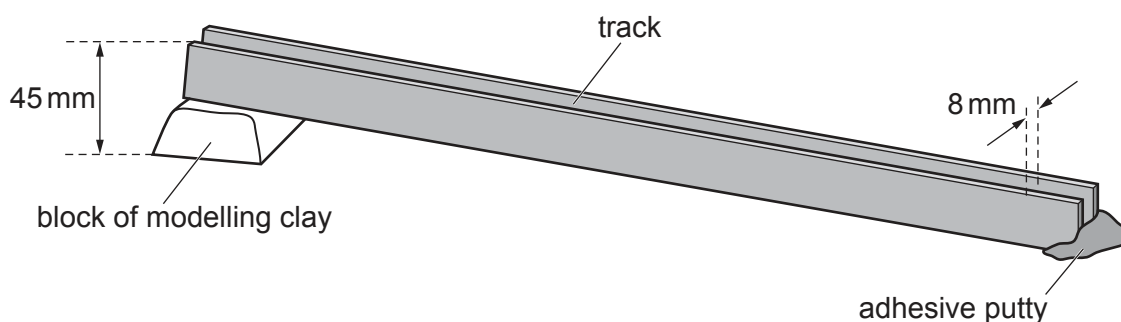

Fig. 4.1
2. The track is formed from two metre rules in parallel 8 mm apart. The scale must face towards the candidate. The top end of the track is pressed firmly into a large block of modelling clay so that the highest point is 45 mm above the bench as shown in Fig. 4.1. The track must be fixed at the bottom end using adhesive putty to maintain the gap of 8 mm and to prevent the track from moving on the bench. A piece of cloth should be placed on the bench after the end of the track to catch the ball.
The supervisor must ensure that the apparatus is in the configuration shown in Fig. 4.1